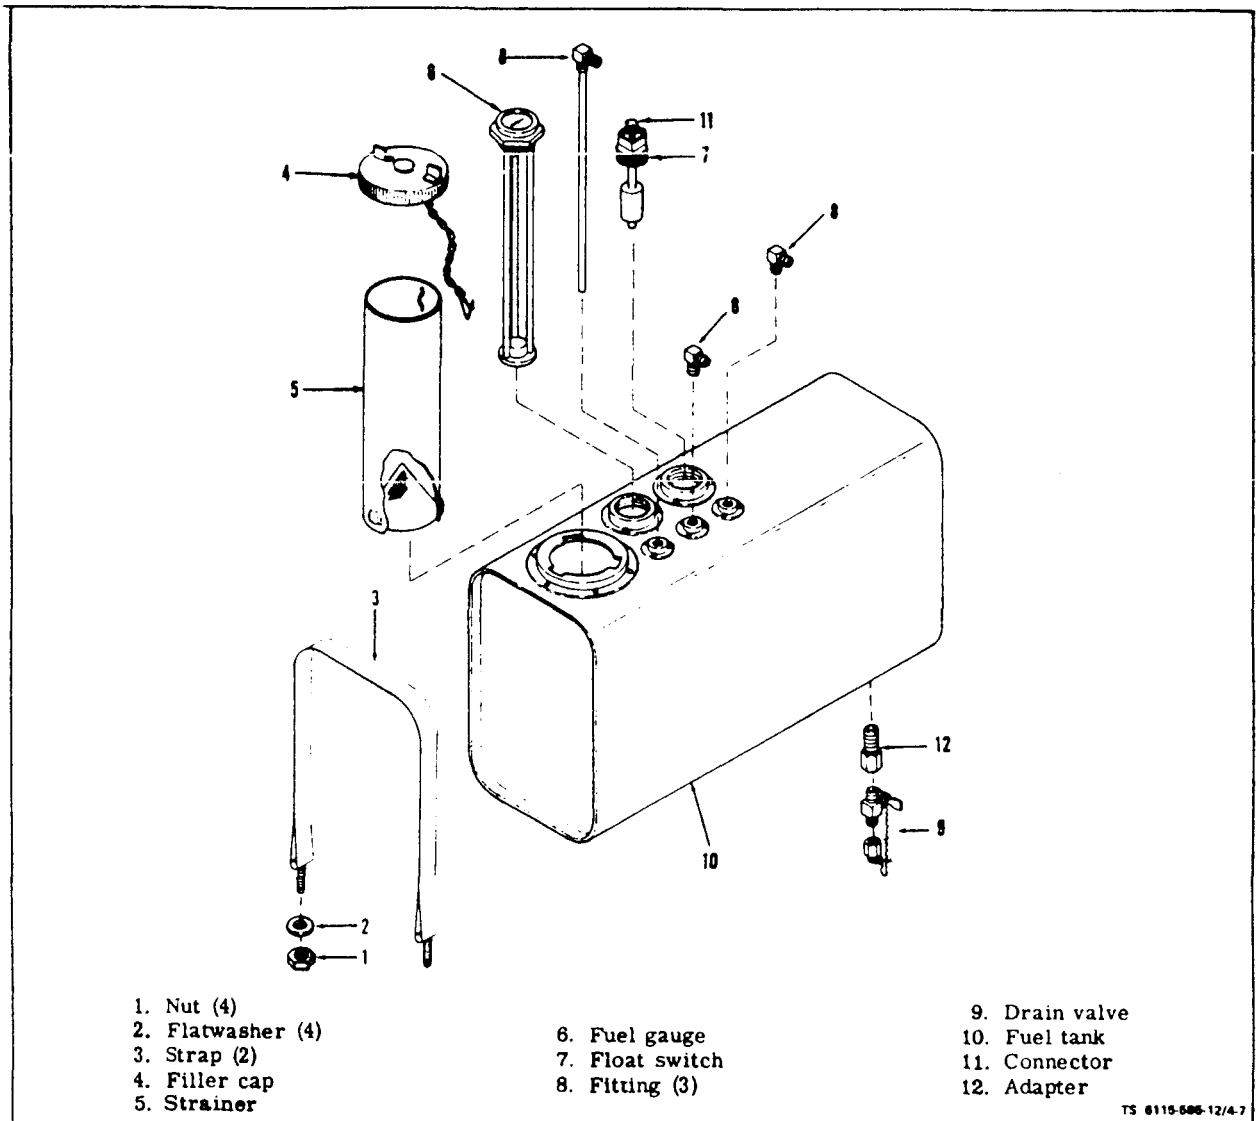
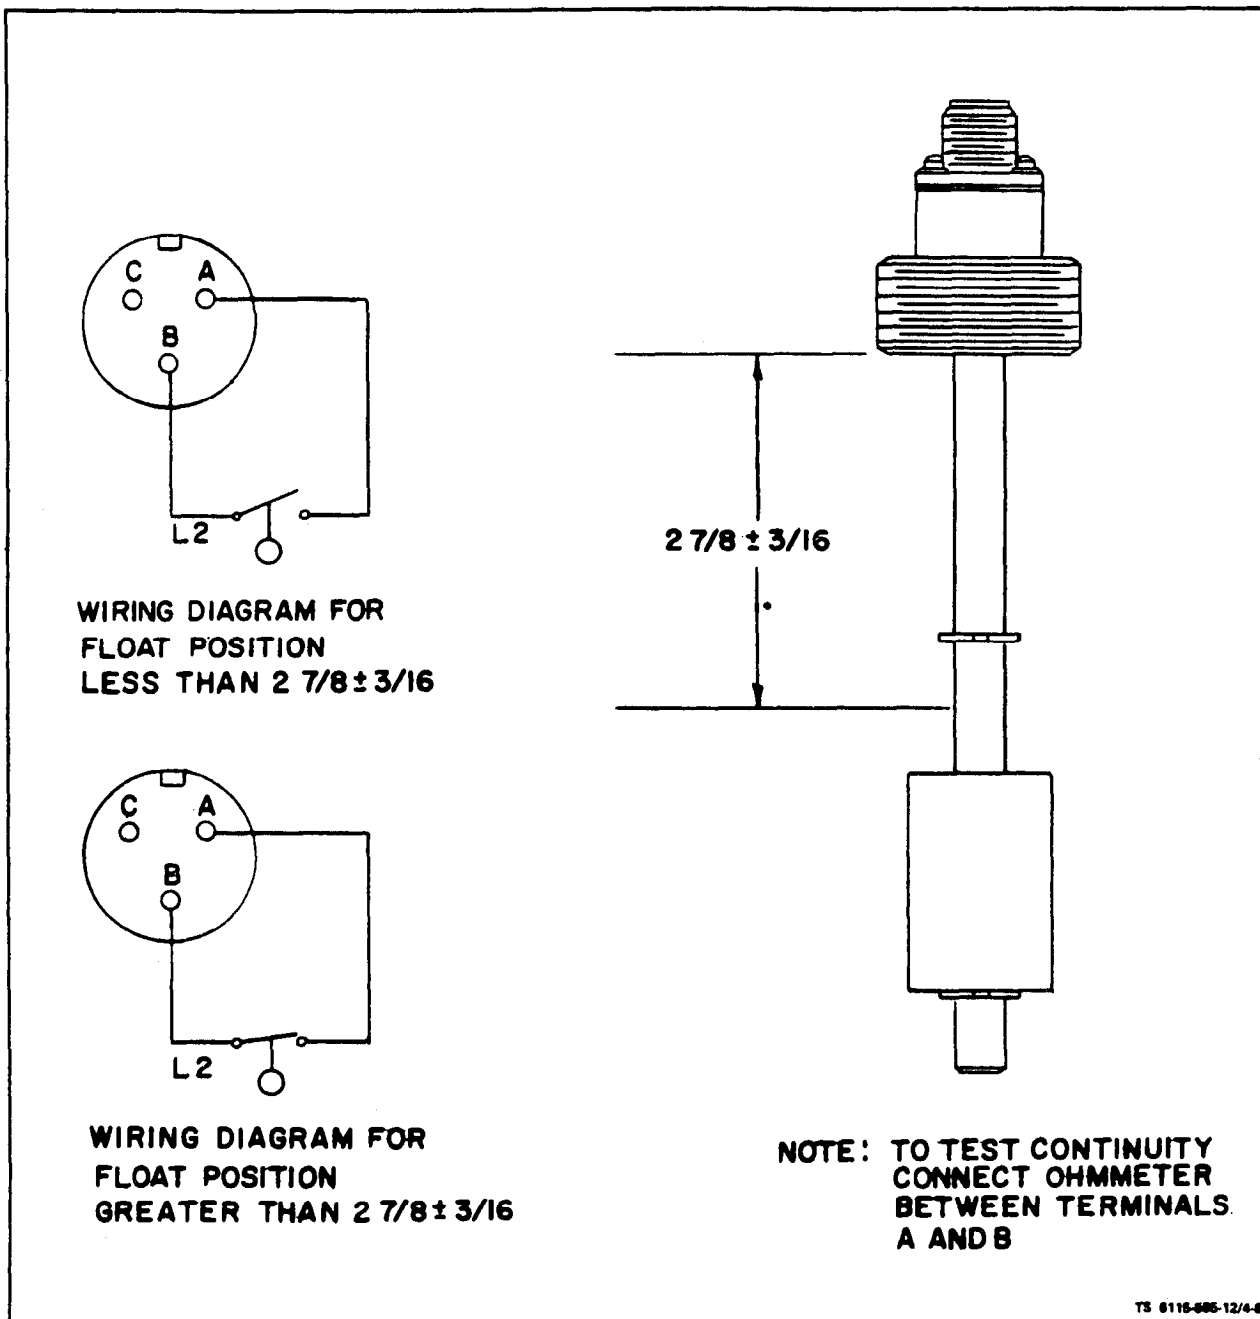

Figure 4-7. Fuel Tank Assembly
Figure 4-8. Testing Float Switch
b. Removal (see figure 4-7). Drain fuel into suitable container by opening drain valve. Tag and disconnect fuel hoses from fuel tank fittings. Disconnect electrical lead from electrical connector (10). Remove nut (1) and flatwasher (2) from straps (3) on outside of fuel tank. Remove tank from skid-base. On ASK equipped generators, remove top panel, left panel and side closure assemblies (para. 5-4 and 5-5).
(1) Fuel Level Gage. Unscrew and remove fuel level gage (5) using tools only on the hex portion of the gage.
(2) Float Switch. Unscrew collar and disconnect electrical connector (10) if not previously disconnected. Unscrew and remove float switch (6) using tools only on the square portions of the switch.
(3) Unscrew and remove fittings (7).
(4) Holding pipe adapter (11) with a wrench, unscrew and remove drain valve (8).
(5) Loosen filler cap and remove filler cap (4) and strainer (5).
(1) Float Switch. Remove float switch (6) from tank (9). Using an ohmmeter, check for continuity between terminals A and B of switch (see figure 4-8). Switch should show no continuity when float is up. Switch should close when float drops to 2-7/8 ±3/16 inch from threaded collar of float switch. Replace switch if it does not operate properly.
(2) Tank. If tank shows signs of physical damage or leaks refer to higher level of maintenance.
f. Reassembly (see figure 4-7).
(1) Fuel Drain, Valve. Engage threads of fuel drain valve assembly (8) 1/2 turn into fuel tank adapter (11). Coat threads with sealing compound ML-S-22473. Tighten valve assembly into adapter (11).
(2) Fittings. Engage threads of fitting (7) 1/2 turn into fuel tank (9). Coat threads with sealing compound MIL-S-22473. Tighten fittings into tank. Fittings should face Generator Set for proper connection of fuel lines. Attach fuel lines to fittings.
(3) Float Switch. Engage threads of float switch (6) 1/2 turn into tank (9). Coat threads with sealing compound ML-S 22473. Tighten float switch (6) into tank using tools only on square portion of switch. Attach electrical lead to connector (10) on top of float switch and tighten.